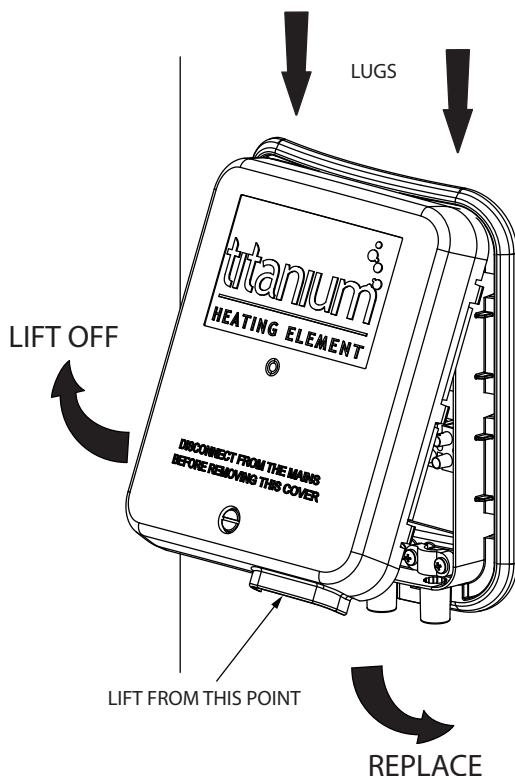

Figure 12: Immersion heater cover removal and replacement
- ▶ The immersion heaters are accessed by removing the Control Cover (see Fig 12).
- ▶ Lift from the bottom of the cover at the point indicated on Fig 12 until cover comes away freely.
- ▶ Replace the Control Cover(s) before operating. To do this tilt the cover and align the top two lugs with the holes in the housing as indicated on Fig 12. Hinge the cover downwards and firmly press the cover until it "snaps" back into place. Secure by tightening the screw on the cover using a flat ended screwdriver. DO NOT OVER TIGHTEN
- ▶ The indirect controls and back-up immersion heater are accessed by removing the Control Cover (see Fig 12).